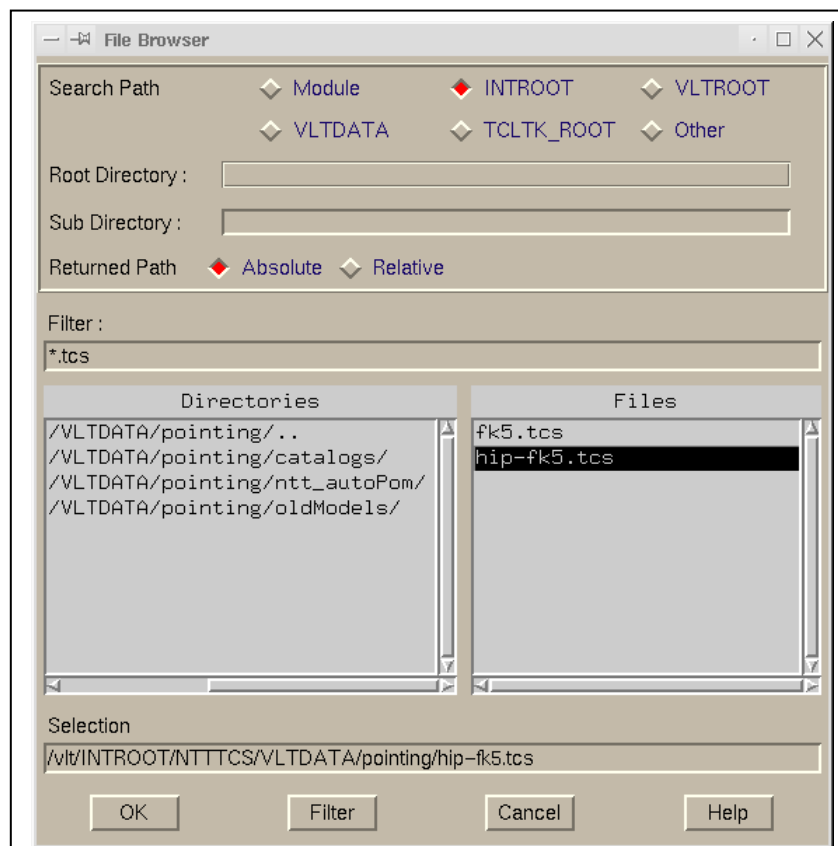

Figure 2.7: Stars Catalog Selection.
2. Click [Load Catalog] and choose catalog from /vltdata/pointing (Figure 2.7). Select Hip-fk5.tcs.